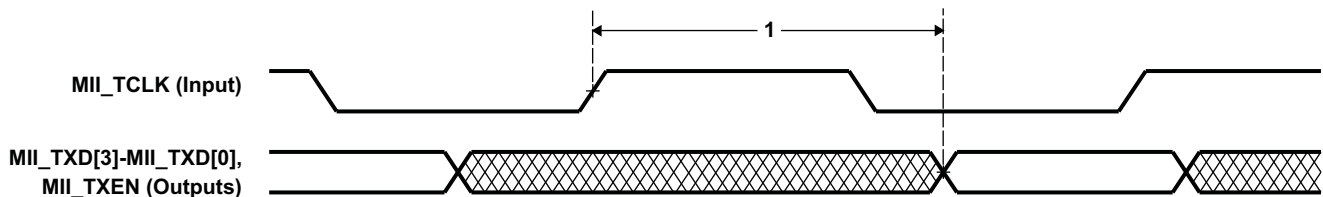

**Figure 5-50. EMAC Receive Interface Timing**
**Table 5-102. Timing Requirements for EMAC MII Receive 10/100 Mbit/s(1)(2) (see Figure 5-50)**